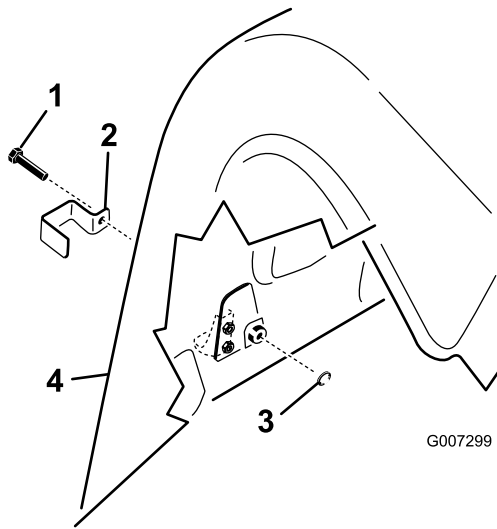

Figure 18
- On the ProCore 864 model, install a lock bracket over the left and right rear lower hood and upper hood latches with a tap bolt (4 total); refer to Figure 18.
2. On the ProCore 1298 model, install a lock bracket over all the rear lower hood latches and the outside upper hood latch on both the right and the left rear covers with a tap bolt (3 per coring head, 6 total); refer to Figure 18.
3. Using a pliers or adjustable wrench, thread an internal lock washer onto each bolt (1 to 2 threads) to secure the latch (Figure 18).